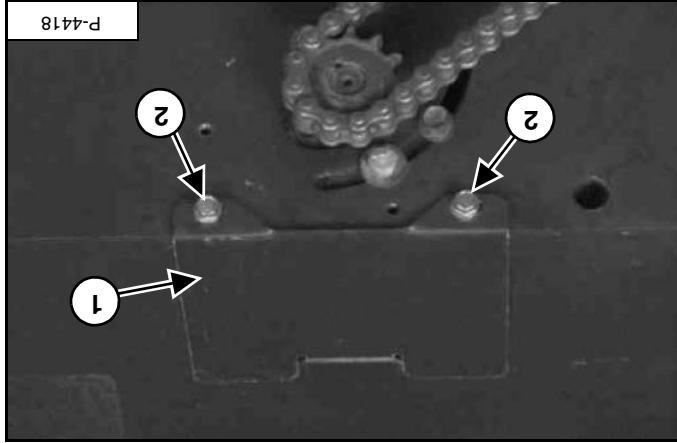

Figure 109
Install the motor cover (item 1). Install and tighten the bolts (item 2) [Figure 109].